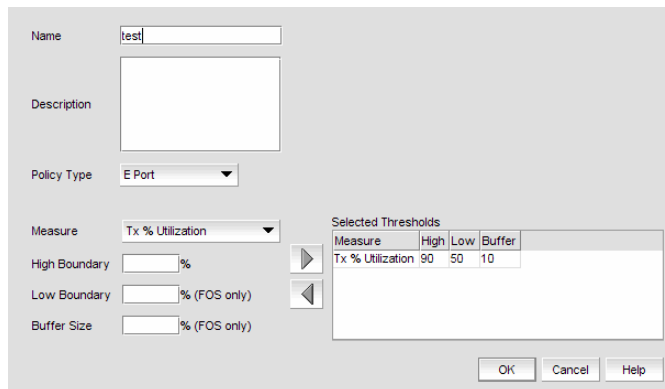

FIGURE 413 Edit Threshold Policy dialog box
2. To edit a current policy, select a policy from the **Available Threshold Policies** list and click **Edit**. The **Edit Threshold Policy** dialog box displays, as shown in Figure 413 on page 975.